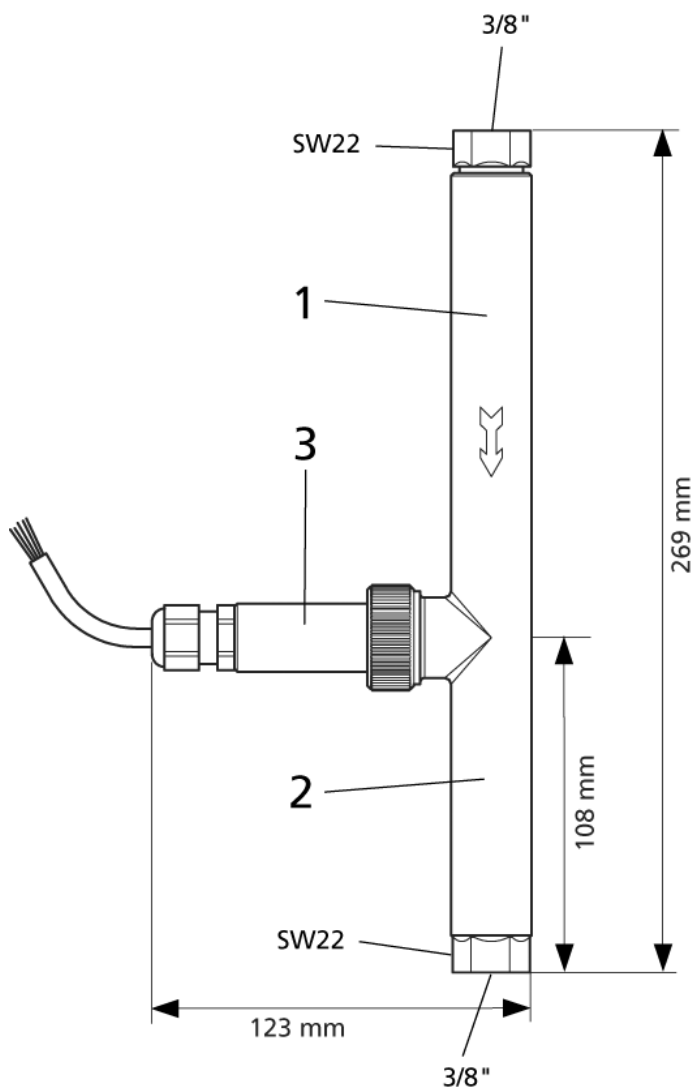

Figure 1: VAPORIX-Flow transmitter
VAPORIX-Flow consists of a measuring tube with inlet section (1), outlet section (2) and side-fitted sensor support (3) (see Figure 1).